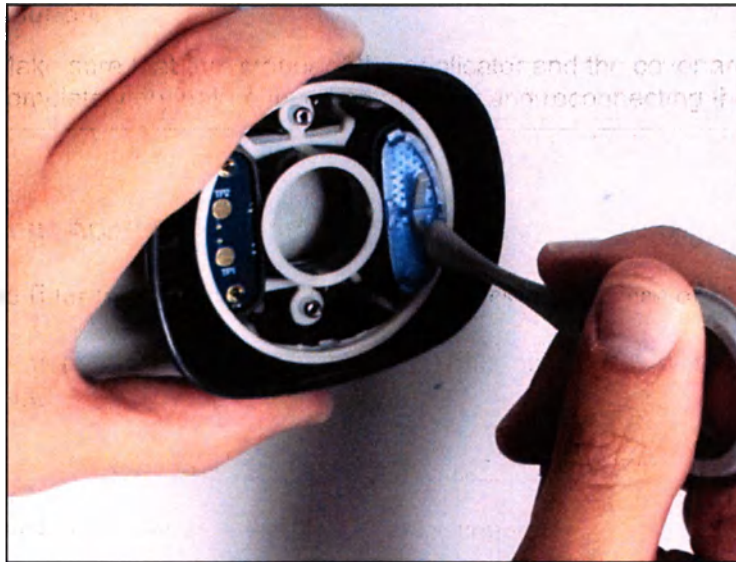

Figure 43: Replacing the VelaShape III Applicator's Filter
1. Use the supplied filter extractor to pull the filter out of the cover, as shown in Figure 43.